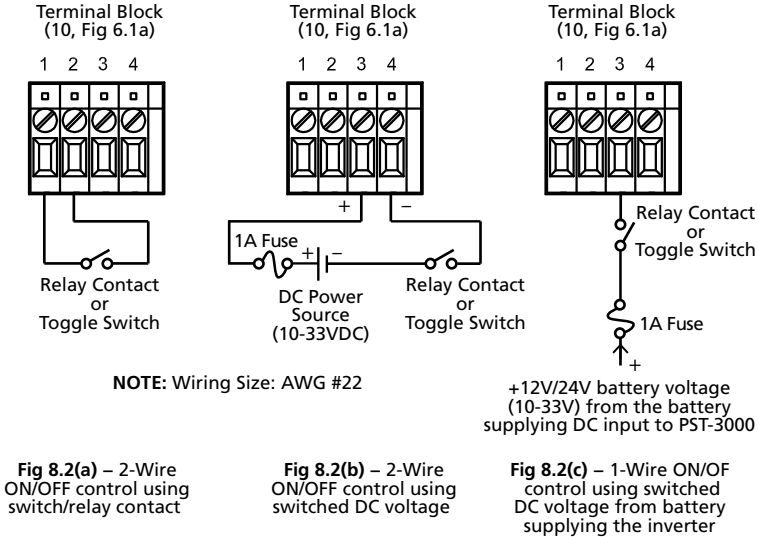

Fig. 8.2: ON/OFF Control from Remote Location using External 2-Wire or 1-Wire Control
The unit can be switched ON/OFF from a remote location using external, wired ON/OFF control arrangements as shown in Fig 8.2(a), (b) and (c). Details are given below:
- **2-Wire ON/OFF Control from Remote Location Using Switch/Relay Contact, Fig 8.2(a):** In this arrangement, external voltage source is NOT required. The inverter will switch ON when the relay contact / switch is closed and terminals 1 and 2 of the Terminal Block (10, Fig 6.1a) are shorted. The inverter will switch OFF when the relay contact / switch is opened and short is removed across terminals 1 and 2 of the Terminal Block (10, Fig 6.1a)
- **2-Wire ON/OFF Control Using Switched DC Voltage (10-33VDC), Fig 8.2(b):**
- **1-Wire ON/OFF Control Using Switched DC Voltage from the Battery Supplying the Inverter, Fig 8.2(c) :**